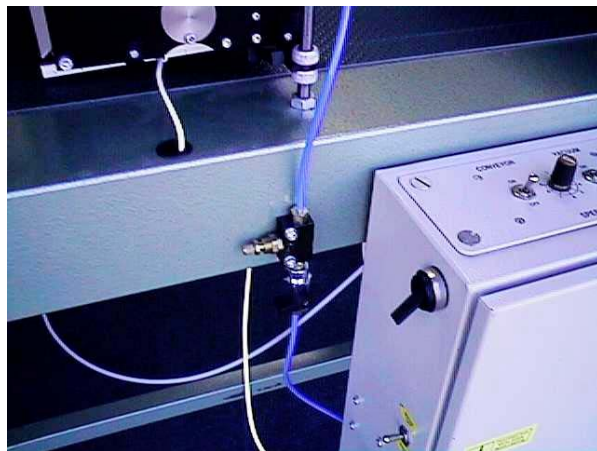

Figure 2
3) Mount the flow regulator and shut-off valve to the side of the conveyor body as shown in Figure 2, and connect the blue pipe between the brass tee piece and the flow regulator.